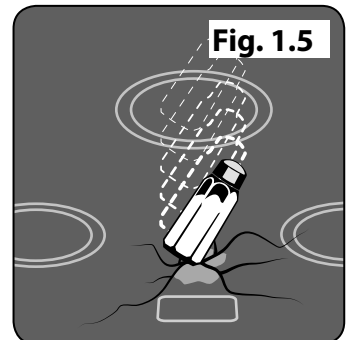

Fig. 1.5
- **DO NOT** stand or rest heavy objects on the hob. Although the ceramic surface is very strong, a sharp blow or sharp falling object (e.g. a salt cellar) might cause the surface to crack or break (**Fig. 1.5**).